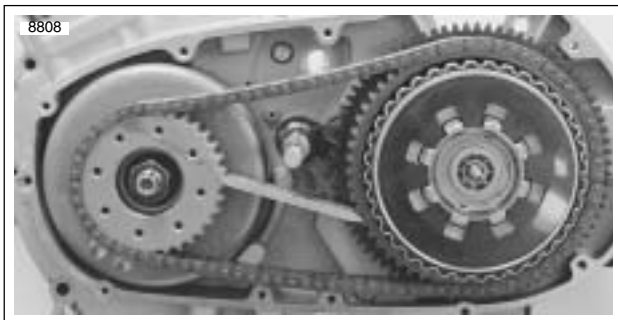

Figure 6-24. Sprocket Locking Link Tool (Part No. HD-38362) for XB9R models and (Part No. HD-46283) for XB12R models.
- a. See Figure 6-24. Install SPROCKET LOCKING LINK (Part No. HD-38362).